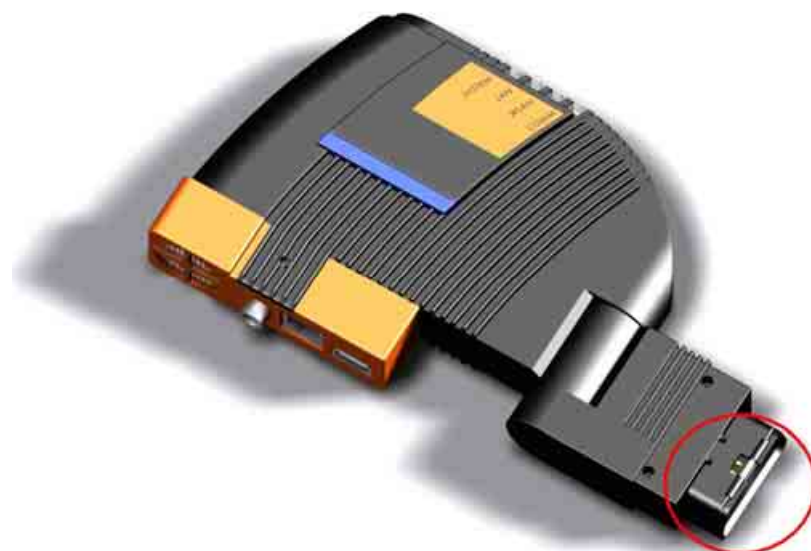

Fig. 71: Connecting the ICOM to the vehicle
- Connect the ICOM to the vehicle via the OBD plug (see Fig. 71) to establish the power supply for the ICOM.